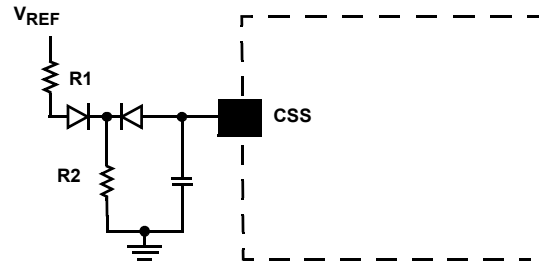

FIGURE 4. REFERENCE-BASED CLAMP CIRCUIT
- Per Equation 3, the clamping voltage is a function of the charge current I_{SS}. For a more predictable clamping voltage, the CSS pin can be connected to a reference based clamp circuit, as shown in Figure 4. To make the Vclamp less dependent on the soft-start current (I_{SS}), the currents flowing through R1 and R2 should be scaled much greater than I_{SS}. The relationship of this circuit can be found in Equation 4.